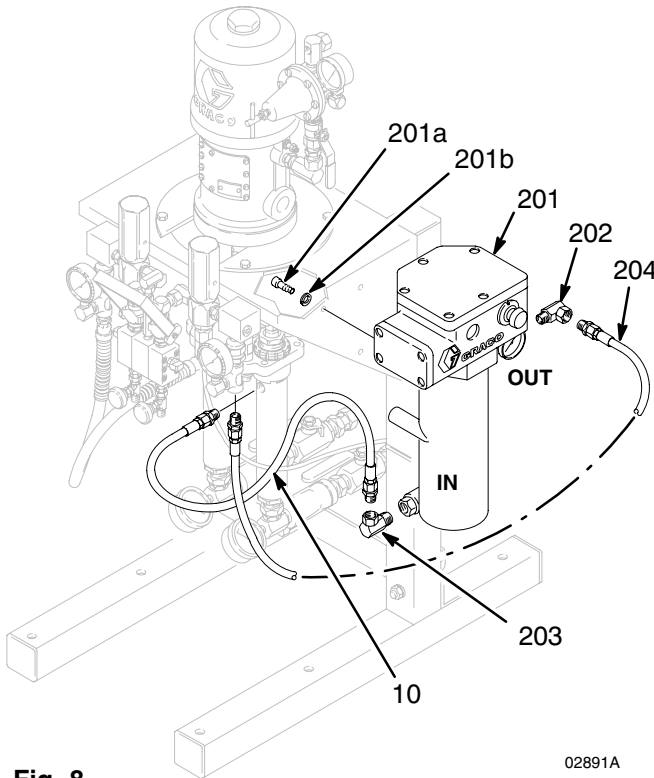
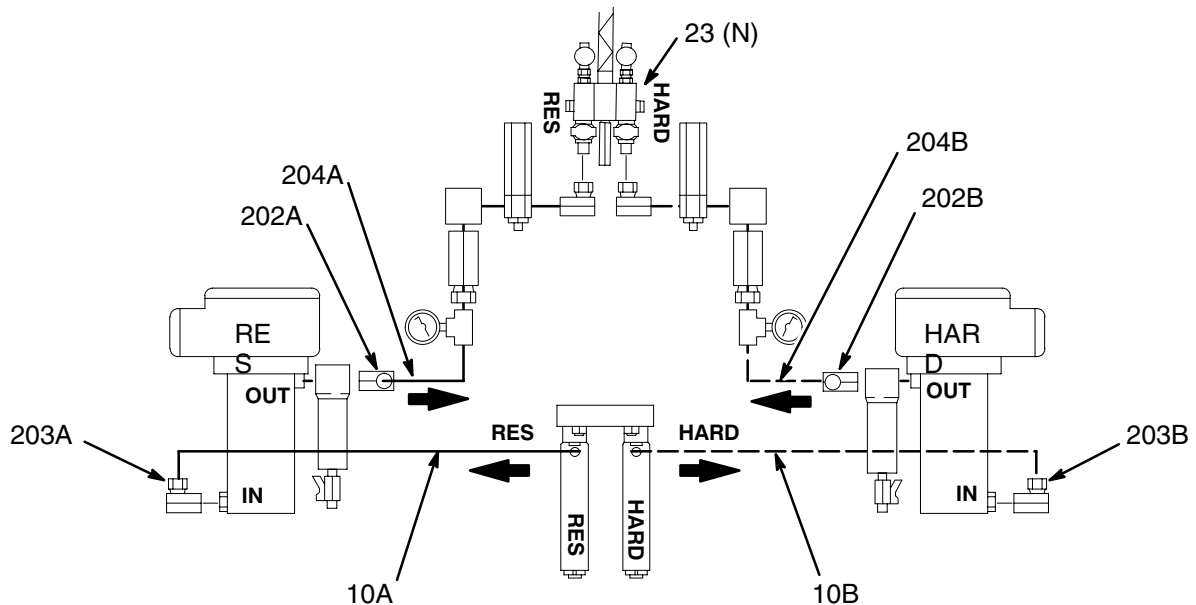

Fig. 8
Fig. 9
1. Mount a heater to each side of the mounting bracket using the three screws (201a) and lock-washers (201b) supplied with each heater. See Fig. 8.
2. Connect a swivel union (202) to the outlet of each heater. See Fig. 8.
3. Connect a swivel union (203) to the inlet of each heater. See Fig. 8.
1. Disconnect the existing hardener hose (10B) from the inlet of the mixer manifold (23). See Fig. 8. Connect the free end of the hose to the swivel (203) at the hardener heater inlet. See Fig. 9.
2. Install a new fluid hose (204B) between the hardener heater outlet (202B) and the hardener mixer manifold. See Fig. 8–9.